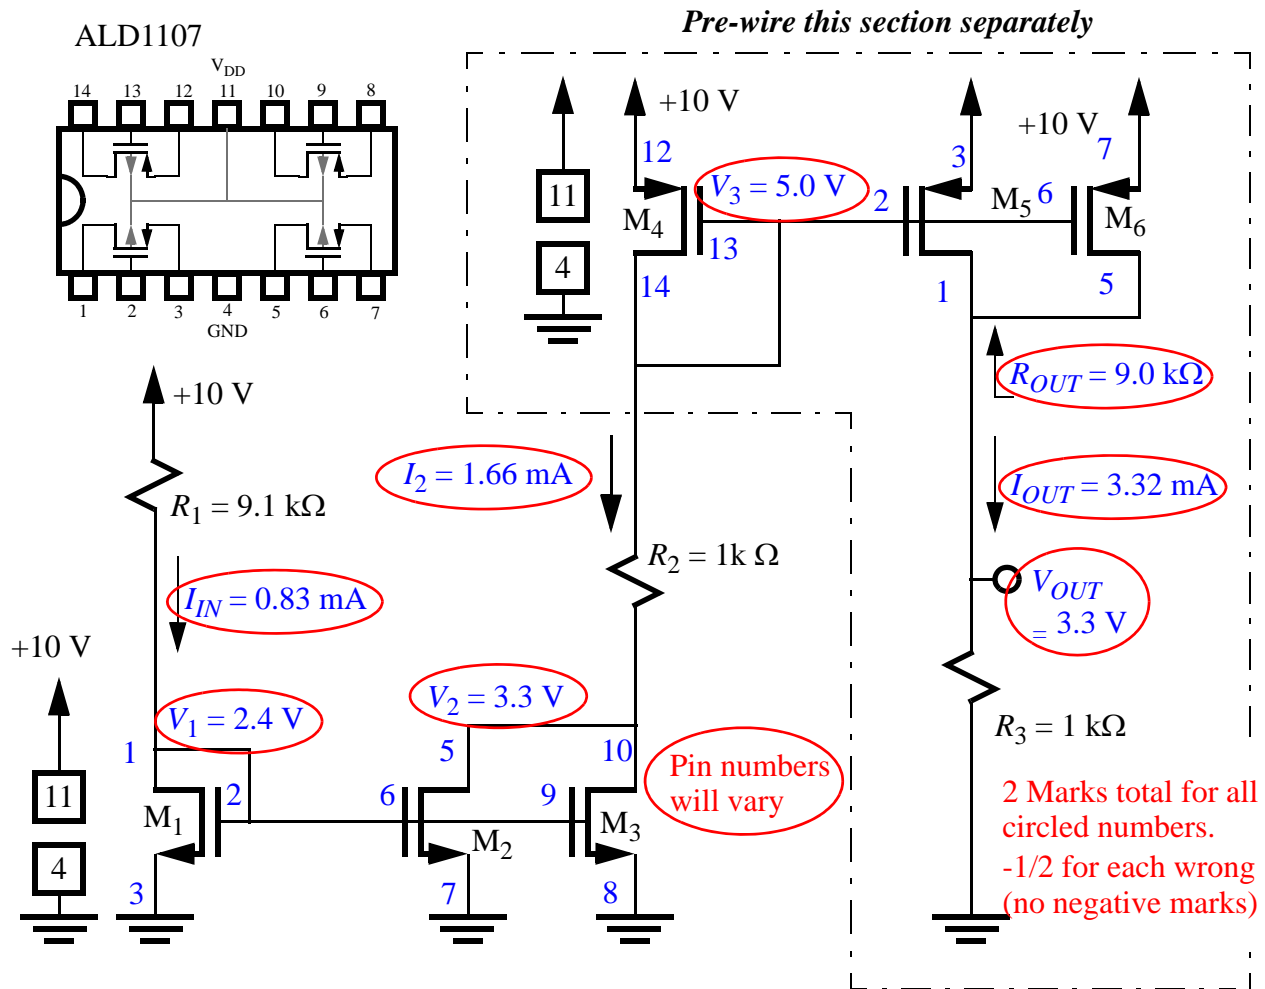
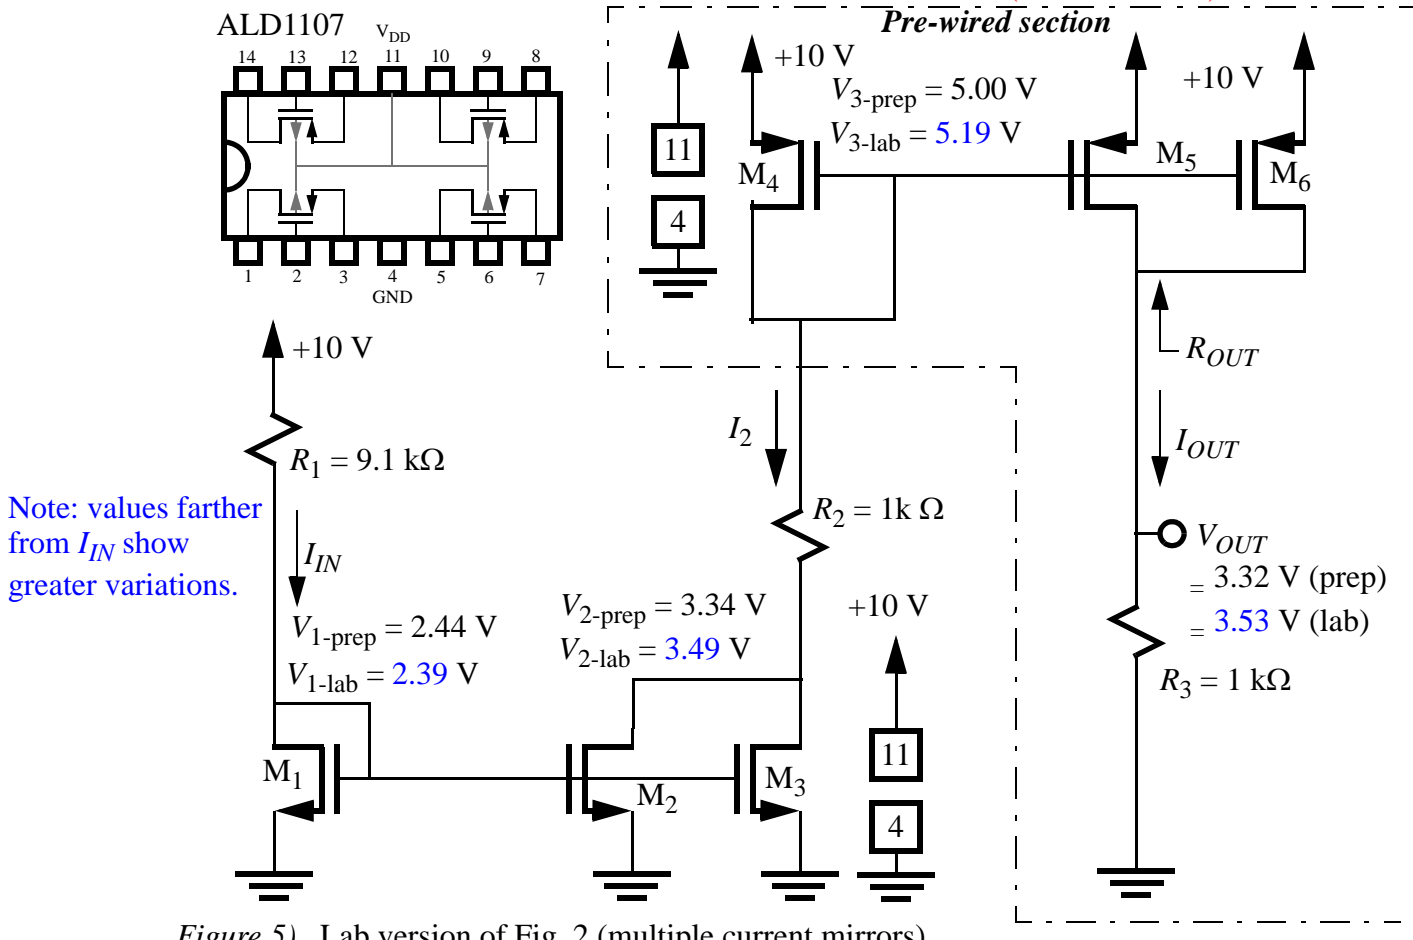

Figure 2) Multiple current mirrors.
Figure 5) Lab version of Fig. 2 (multiple current mirrors).
2. The circuit shown in Fig. 2, contains multiple current mirrors.
- Construct a multiple current mirror circuit and verify its dc operating point. To do this, power down your circuit. Then, add an NMOS device (M_3) and the pre-wired PMOS mirror to your circuit, as shown in Fig. 5 (lab version of Fig. 2). Re-apply 10 V to the circuit. Verify that the circuit is operating properly by measuring its node voltages¹, recording them on Fig. 5 and comparing the voltages to the preparation values. **1 Mark - should correspond to your preparation (see note below)**